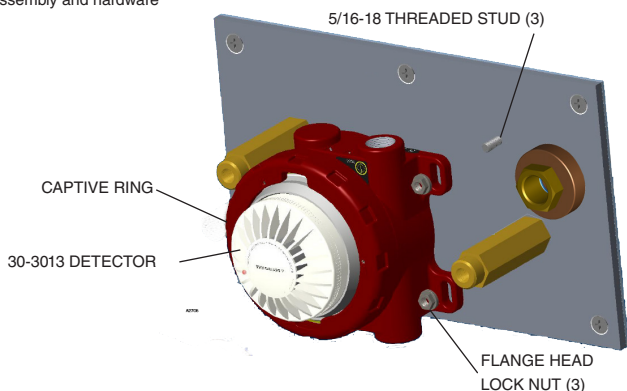

Figure 7—30-3013 Smoke Detector mounted on Q3013D plate assembly
1. Remove the three flange head lock nuts on the plate (Figure 7). Place the 30-3013 Smoke Detector over the hole locations, centering it in the slots. Replace and fasten the nuts to secure the detector to the plate.